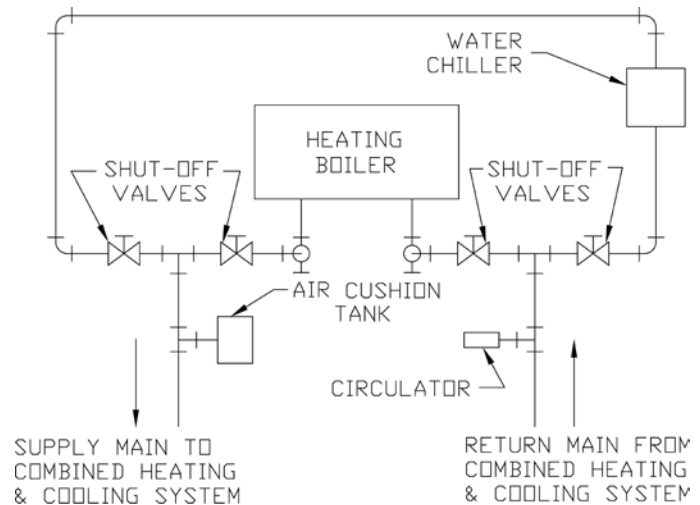

Figure 3: Recommended Piping for Combination Heating & Cooling (Refrigeration) Systems
- E. If boiler is used in connection with refrigeration systems,** boiler must be installed with chilled medium piped in parallel with the heating boiler using appropriate valves to prevent chilled medium from entering boiler. See Figure 3. Also consult Residential Hydronic Heating Installation and Design I=B=R Guide.